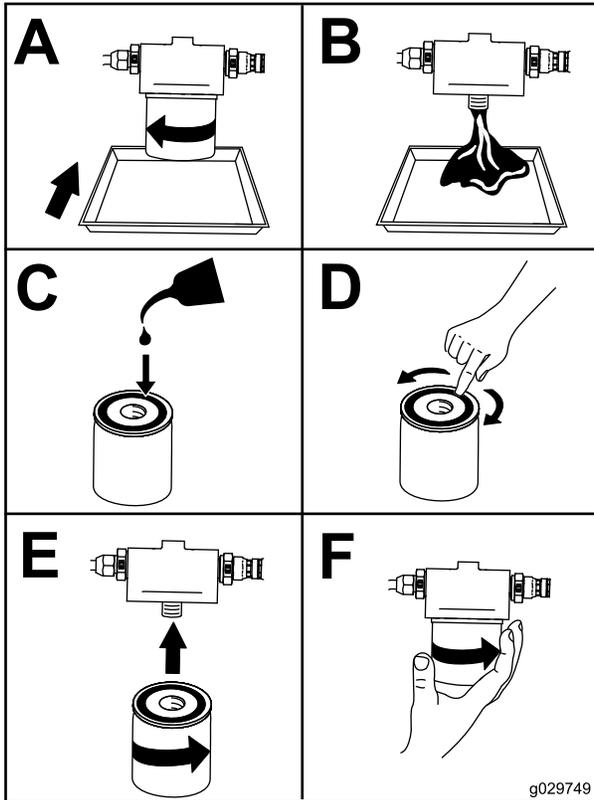

Figure 47
7. Change the oil filter (Figure 47).